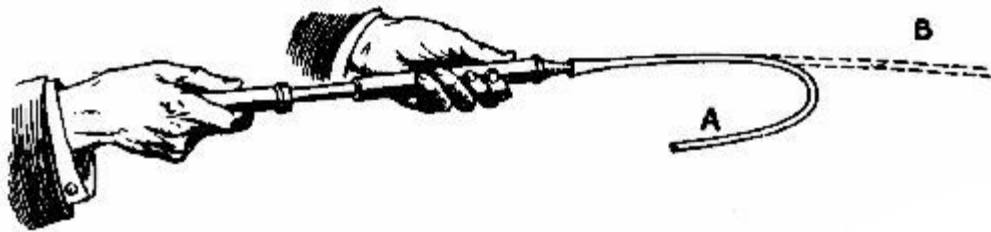

FIG. 13.—Showing the principle of the steam-gauge.
It is of the utmost importance that a person in charge of a boiler should know what pressure the steam has reached. Every boiler is therefore fitted with one *steam-gauge*; many with two, lest one might be unreliable. There are two principal types of steam-gauge:—(1) The Bourdon; (2) the Schäffer-Budenberg. The principle of the Bourdon is illustrated by Fig. 13, in which A is a piece of rubber tubing closed at one end, and at the other drawn over the nozzle of a cycle tyre inflator. If bent in a curve, as shown, the section of the tube is an oval. When air is pumped in, the rubber walls endeavour to assume a circular section, because this shape encloses a larger area than an oval of equal circumference, and therefore makes room for a larger volume of air. In doing so the tube straightens itself, and assumes the position indicated by the dotted lines. Hang an empty "inner tube" of a pneumatic tyre over a nail and inflate it, and you will get a good illustration of the principle.